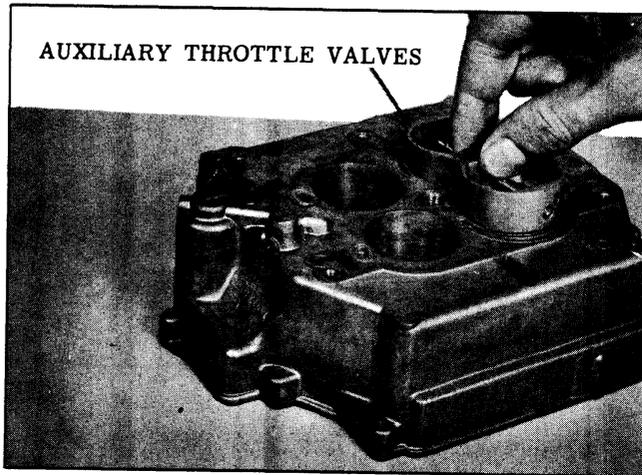

Fig. 8-100 Auxiliary Throttle Valve Assembly
10. Remove the secondary auxiliary throttle valve assembly from the carburetor body as shown in Fig. 8-100.